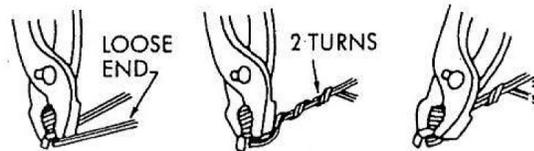

Fig. 10
- D. Attach a #14 AWG copper wire (or equivalent) to the grounding eye of the elbow. Twist the wire at least two turns. Take care not to damage the ground tab. Attach the free end to system ground. See Figure 10.